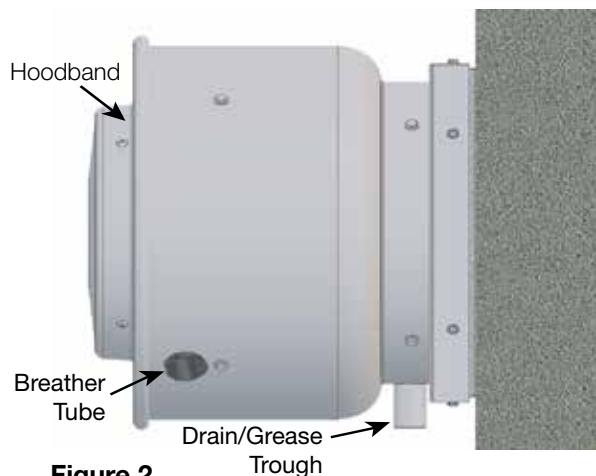

Figure 2
6. Lift the fan into place and orient the breather tube and drain/grease trough in a downward position as shown in Figure 2.